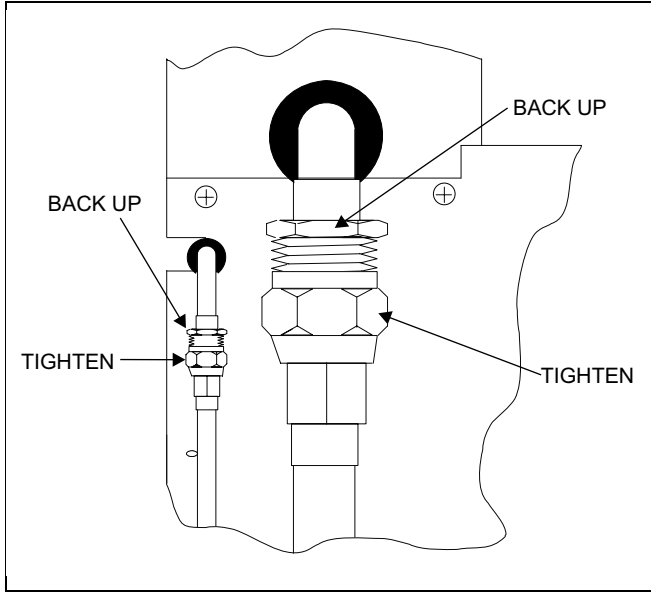

FIGURE 7 : QUICK CONNECT COUPLING
7. Install refrigerant lines to indoor coil first. (The couplings without Schrader valves are to be connected to the indoor coil. See Figure 7.
- a. Tighten indoor coil couplings with wrenches; using wrench on stationary fitting of coupling and liquid line fitting at coil while nut is being tightened. See Figure 7. Tighten the nut until the coupling bottoms out.